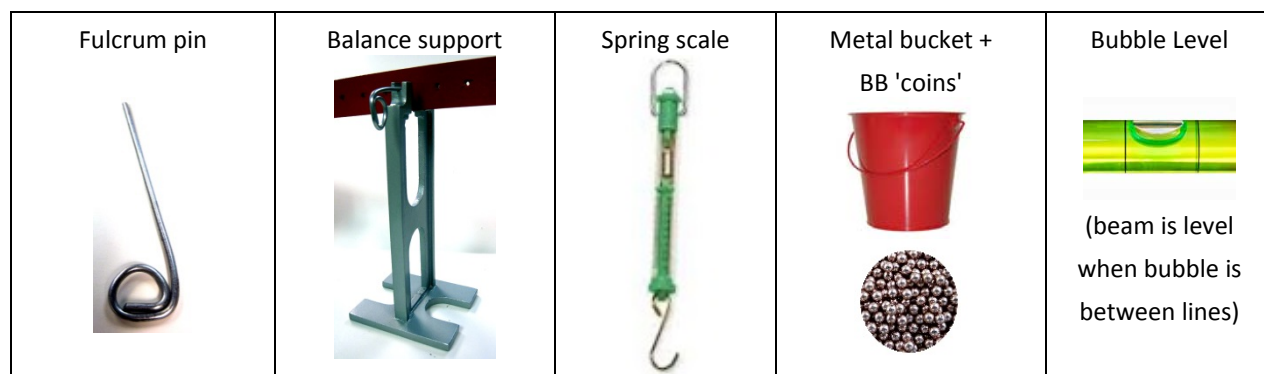

Figure 3. Materials needed for examination of the Mechanical Advantage of a Class 1 lever as a function of fulcrum position.
- Find the following lever system materials shown in **Figure 3**: fulcrum pin, balance support, and a 50-cm-long wooden beam (with pictured attached spring scale, bucket for BB 'coins' and bubble level), and BB 'coins'.
- Slide the fulcrum pin into the center hole of the beam and rest on the balance support as shown in Figure 3 above. This fulcrum pin will later be moved from place to place to adjust the relative lengths of load and effort arms.
- Consult Exercise 3a2 in the answer sheet for classification of the various items shown in Figure 3 as well as notation of where the fulcrum, effort force and load are located for each. Correct your worksheet accordingly.